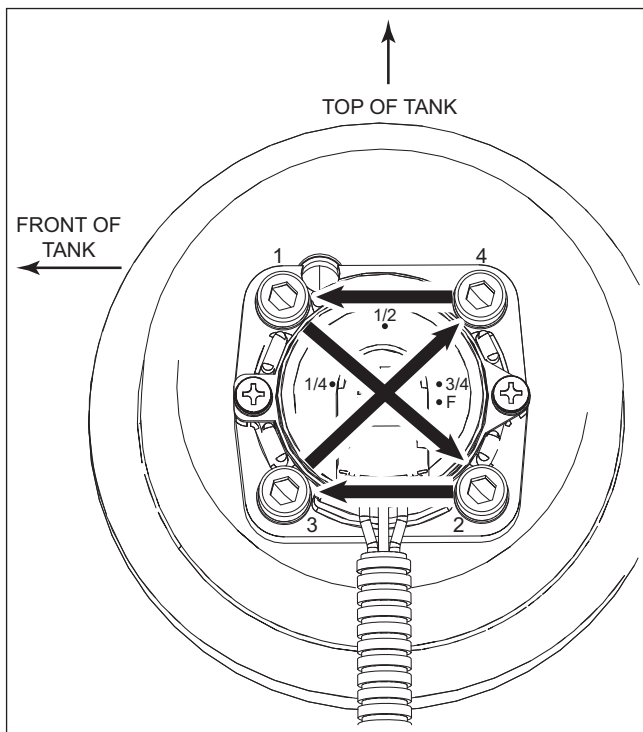

Figure 49 – Fuel Level Sender Torque Sequence
3. Torque the bolts using the sequence shown in Figure 49.